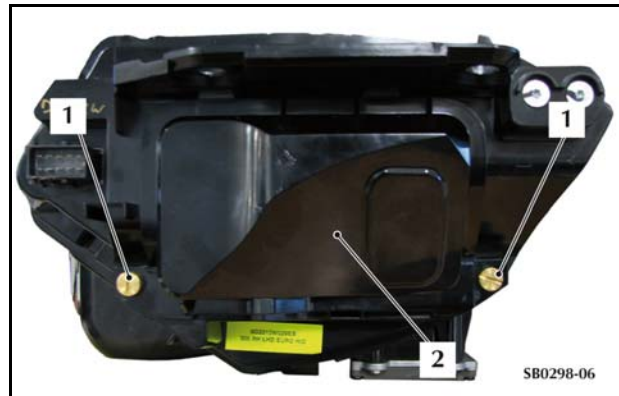

Figure 6
4. Remove the two screws (1) that attach the bulb cover (2) to the headlamp (refer to Figure 6).